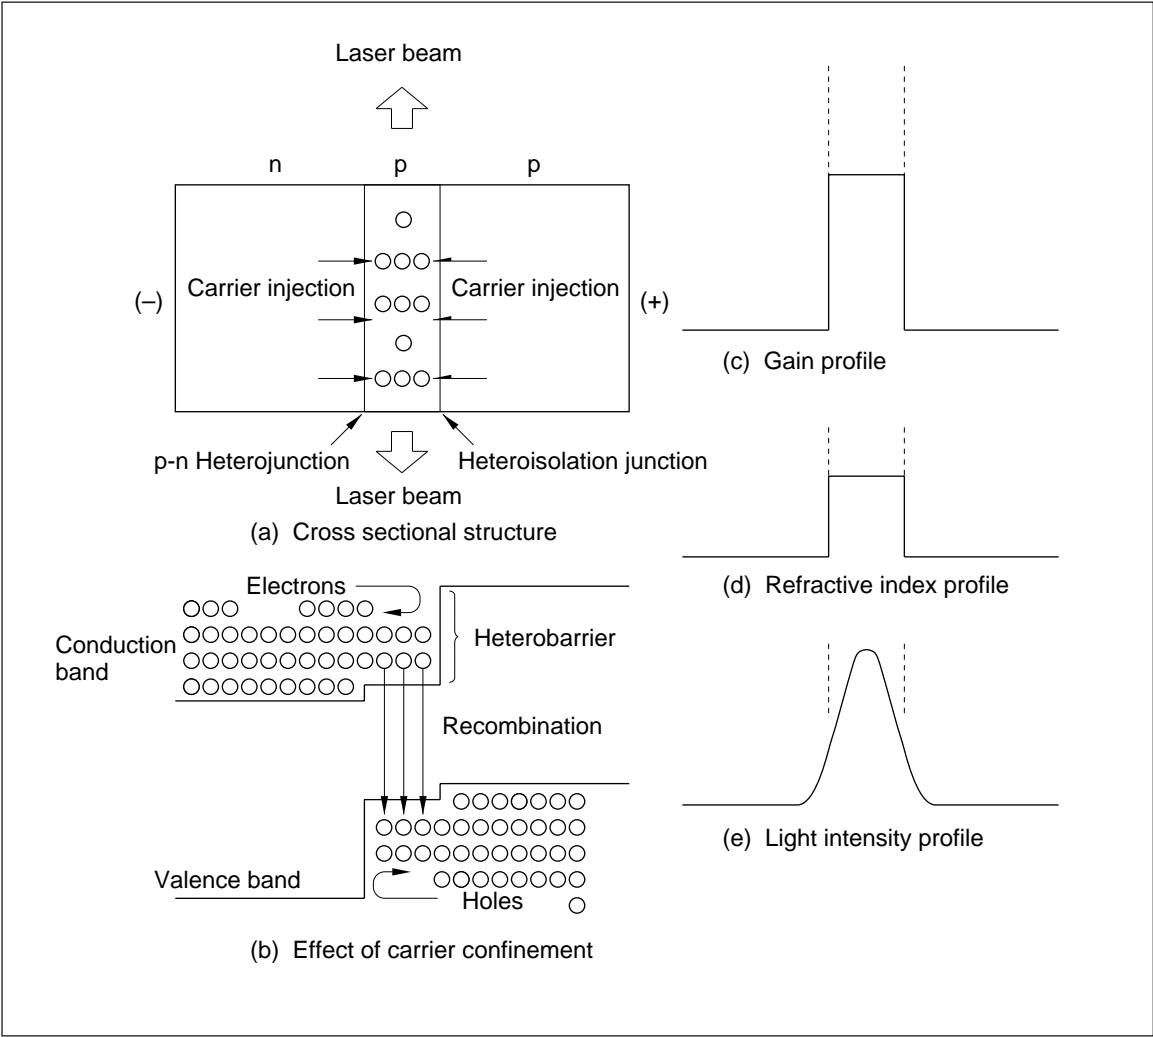
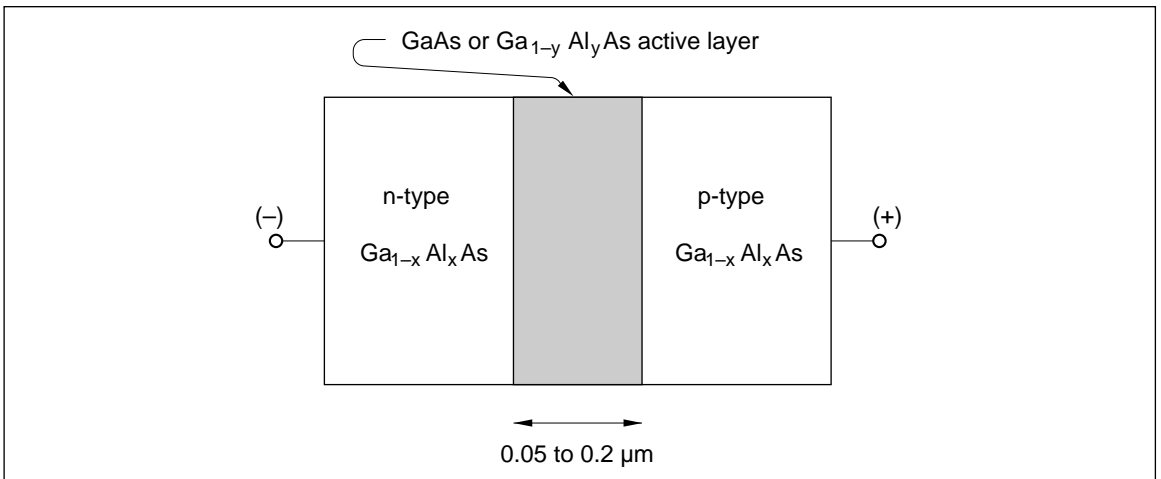

Figure 2-1 Operation Principles of Double-heterojunction LD
Figure 2-2 GaAlAs DH Structure LD
The p-type active layer, in which stimulated emission enforces optical amplification (figure 2-1 (a)), is processed first. The p-n junction is made here for injecting minority carriers (the p-n heterojunction). With forward current applied to
The active layer of the GaAlAs LD is made of GaAs or $\text{Ga}_{1-y}\text{Al}_y\text{As}$ (figure 2-2). The thickness of the layer is 0.05 to 0.2 μm . p-type $\text{Ga}_{1-x}\text{Al}_x\text{As}$ and n-type $\text{Ga}_{1-x}\text{Al}_x\text{As}$ ($x > y$) sandwich the active layer (x and y here are the mixture ratio of aluminum). When x is 0.3, the band gap of the sandwich layers is 1.8 eV, and there is a balance of 0.4 eV against 1.4 eV of GaAs. When forward bias is applied here, the heterobarrier confines carriers within the 0.05 to 0.2 μm active layer, carrier population is inverted and the gain increases. The refractive index of GaAs is higher by some percent than that of $\text{Ga}_{1-x}\text{Al}_x\text{As}$, which confines the generated light within the GaAs active layer. The light penetrating into the Al_xAs layer is not absorbed because of its wide band gap. So laser oscillates effectively there (figure 2-1). The thinner GaAs layer can make do with less threshold current density to achieve laser oscillation. At present, a threshold current density of as low as 1 to 2 kA/cm^2 can be achieved, realizing a stable continuous oscillation (CW) at room temperature.